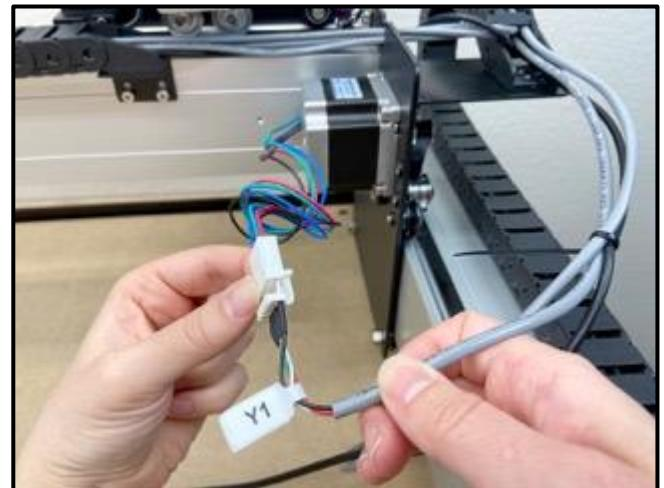

Figure 8-12
2. Connect the Y1-motor leads to the short gray 4-pin extension cable labeled "Y1." See *Figure 8-12*.